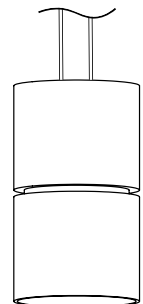

Fig. 21
5. Once hanging heights are confirmed, cut off the excess cable where it exits the bottom of the lowest Etched Through Cylinder Luminaire (Fig. 21). Also cut off the excess cable where it exits the top of the Height Adjustable Luminaire Hanger.